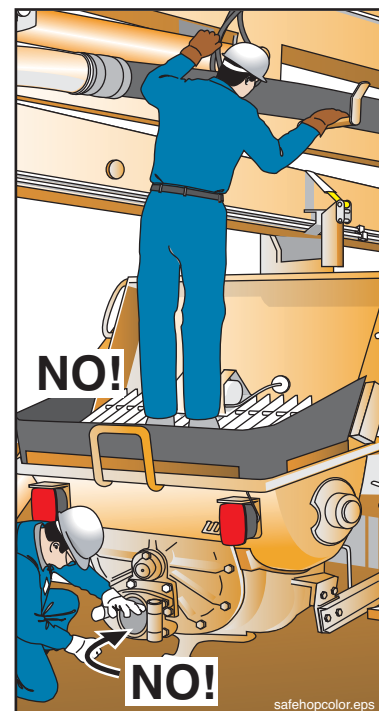

Figure 83
16.19 **⚠ WARNING** Crushing/amputation hazard! Never put your hands, feet, or any other body part into the water box, concrete valve, or hopper when the hydraulic system is operational or ready to operate! Never stand on the hopper grate! (See Figure 83.)